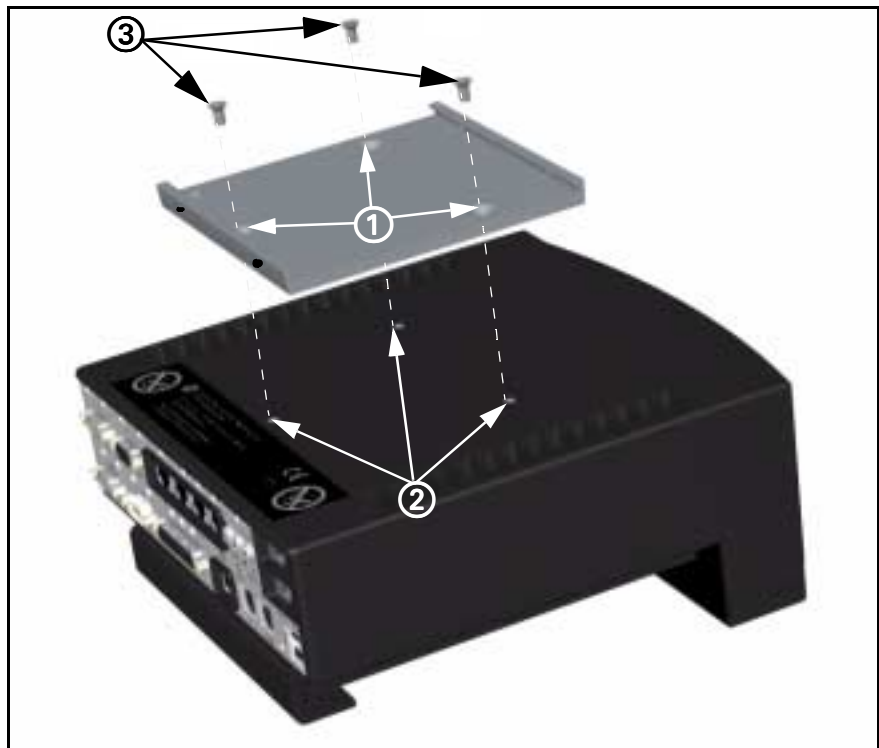

Figure 5-3 MDS with mounting bracket
- 3) Align mounting bracket screw holes (① in Figure 5-3) to screw holes on top of MDS (② in Figure 5-3).
- 4) Insert and tighten 3 Phillips-head screws (supplied, ③ in Figure 5-3).